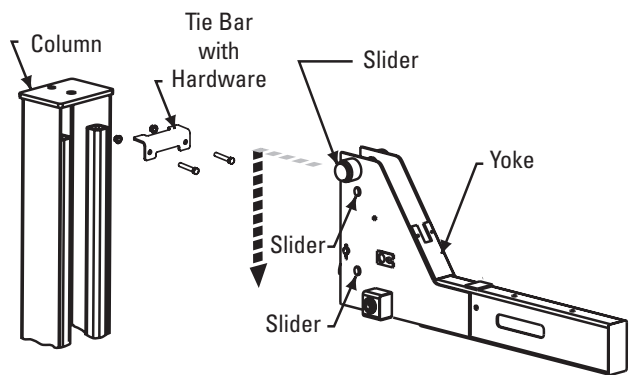

Fig. 12
8. Lay column down, with back of column to the floor. Remove tie bar attached near the top of column tubes. Slide yoke into the top of the column and slide to bottom of column, Fig. 12. Reinstall the tie bar.